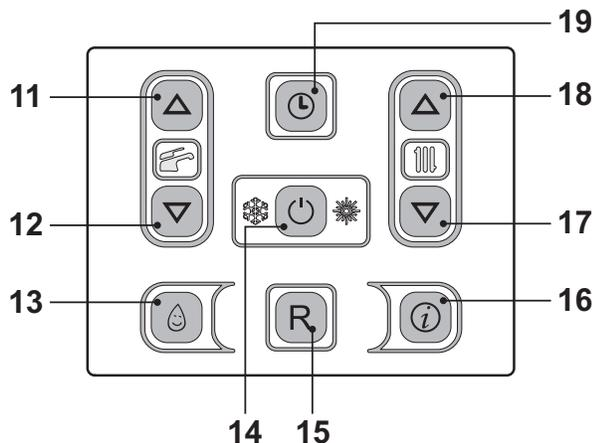
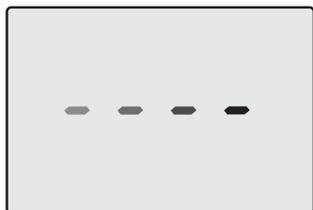

Fig. 2.33
Fig. 2.34
To activate the 3 star preheating function press key 13 (Fig. 2.33) until the following symbol appears on the LCD display  (Fig. 2.27).
To disable the 3 star preheating function press key 13 (Fig. 2.33) until the symbol does not disappear from the LCD display .
Press the key for 2 seconds 14 (Fig. 2.33) until the     symbol appears on the display (Fig. 2.34).